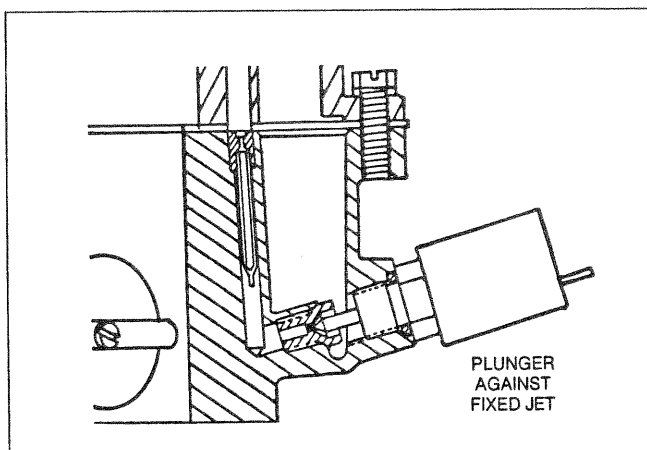

Figure 168. Solenoid Valve Closed (Typical)
- When ignition switch is set to "Off" position, the solenoid plunger moves against the fixed jet and stops fuel flow (Figure 168).